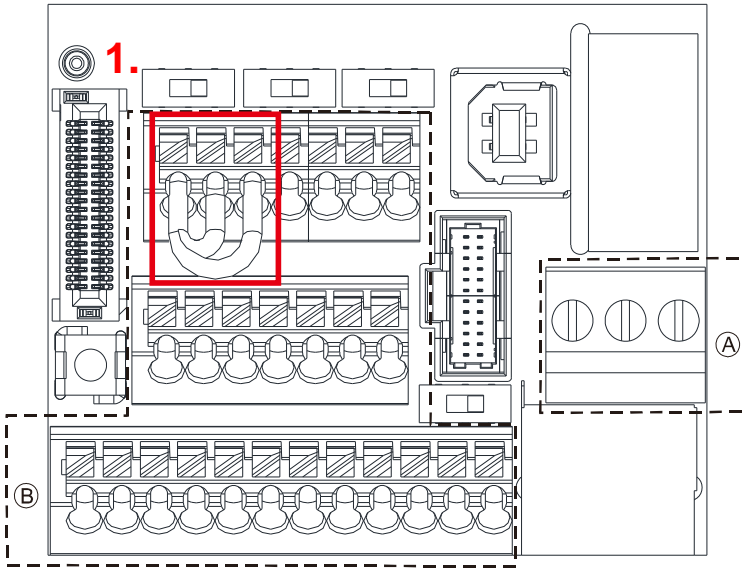

Fig. 6-6 Control Terminal Distribution Diagram
- The default condition is +24V / S1 / S2 shorted by jumper, as shown 1. in the Fig. 6-6. Refer to Chapter 4 WIRING for more details
- The RELAY terminal uses the PCB terminal block (as shown area ① in the Fig. 6-6):
- The Control terminal uses a spring clamp terminal block (as shown area ② in the Fig. 6-6):